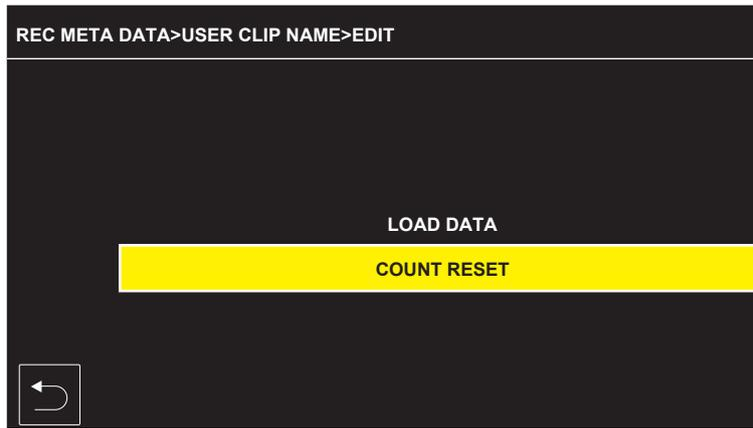

Fig. 1
- 3 Move the cursor to [COUNT RESET]. (Fig. 1)